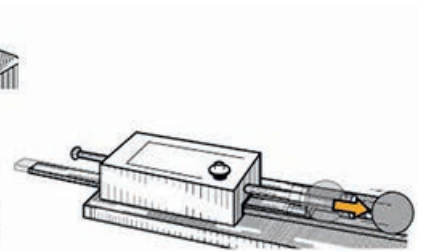

Fig.4
5. Hold the launcher and press the Launcher button to launch the ball (see Fig.4).